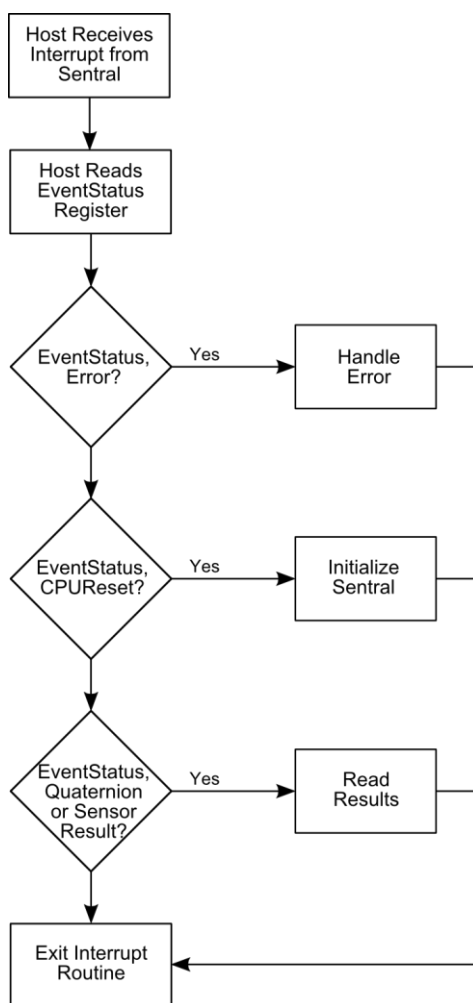

Figure 5-3: SENtral Normal Operation Flow
- Interpret and act on the EventStatus register in the priority shown in Figure 5-3. If bit [1], the Error bit, is '1', see Section 5.3.1. If bit [0], the CPUReset bit, is '1', see Section 5.3.2. If bits [2], [3], [4], or [5], the Results bits, are '1', see Section 5.3.1.
Note that reading the EventStatus register clears it. It is possible for more than one bit position to be '1' in the EventStatus register, especially if the host does not always read the EventStatus register after receiving an interrupt. Similarly, if multiple bits are set to '1' in the EventStatus register, once the register is read all the bits will be set to '0'. For this reason the EventStatus register should be processed in the priority shown in Figure 5-3, as information will be cleared for events that are not handled.